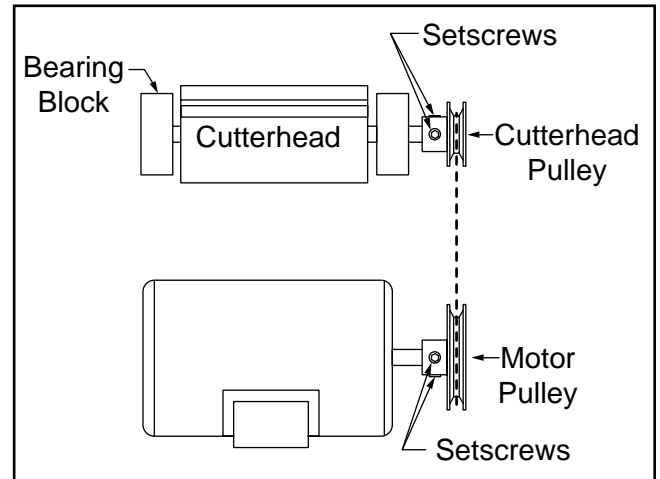

Figure 9. Pulley and V-belt alignment.
3. Align the motor and cutterhead pulleys with each other using a plumb bob or straight-edge. Move the motor until the face of the motor pulley is aligned with the cutterhead pulley and tighten the motor mount bolts. Pulley alignment can be fine tuned by loosening the motor pulley setscrews and moving the pulley in or out as necessary. **See Figure 9.**